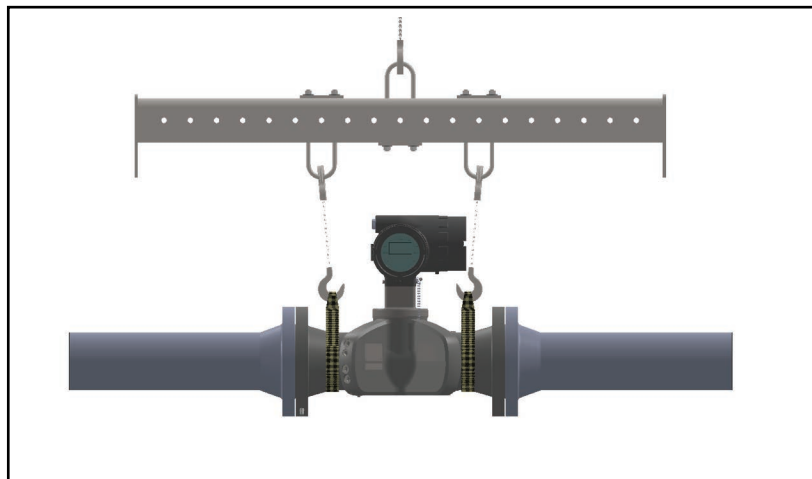

Figure 12: Lifting strap locations
CAUTION! To avoid possible strain, refer to the Sentinel LCT4 label for the assembly weight, use a properly-rated lifting assembly, and place the lifting straps in the indicated locations (see *Figure 12* below).
- Make sure the **Sentinel LCT4** is oriented with the flow transmitter in a vertical position at the top, as shown in *Figure 12* below.